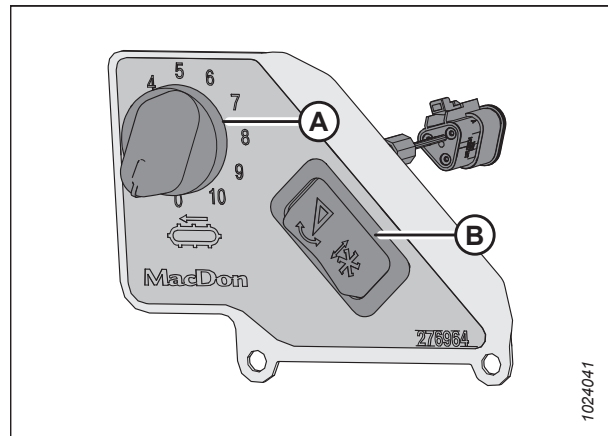

Figure 3.294: In-Cab Side Draper Speed Control
Switch (B) in Figure 3.294, page 214 allows the operator to switch between the header tilt and reel fore-aft controls. For instructions on the controls, refer to Adjusting Header Angle from Combine, page 205.